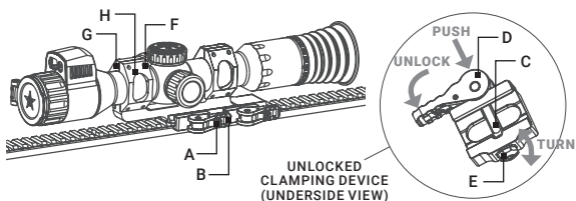

FIGURE 2-6. INSTALLATION WITH QUICK RELEASE MOUNT
The Spectrum LRF 4K-Mini scope be can mounted on a Picatinny/ Weaver rail using optional AGM quick release (QR) mount (Figure 2-6).
1. Unlock the clamping devices of the QR mount by pushing down on the lever holders (A) and unlocking the levers (B).
2. Install the mount on the Picatinny/ Weaver rail so that the stops (C) slide into the transverse slots on the rail.
3. Affix the mount to the rail by locking the levers (B).